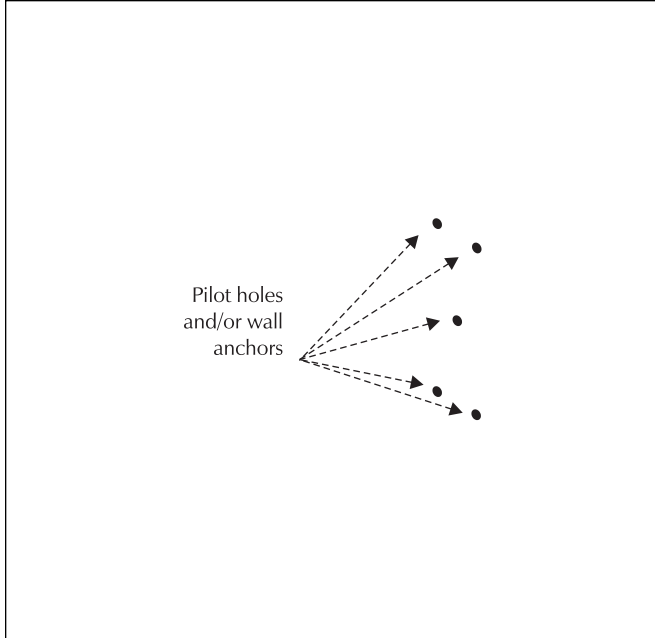

Figure 6. Step 5
- 5 Set the wall bracket aside. Using a 1/8" bit, drill a pilot hole at all five points. If any of the pilot holes hit a stud during this step, **DO NOT** widen the pilot hole and install a wall anchor at that location. If a pilot hole does not hit a stud, use a 1/4" bit to widen the pilot hole and using a Phillips screwdriver install the wall anchors so they are flush with the wall (see figure 6).